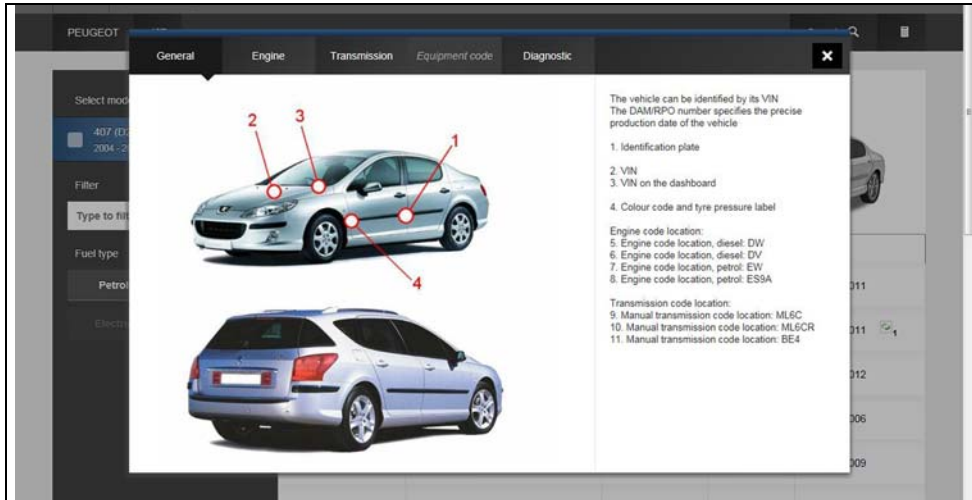

Figure 9-9 Show ID Location (result example)
- If needed, select the **Show ID Location** icon, to access visual help information to find the location of vehicle identification numbers (*Figure 9-9*).